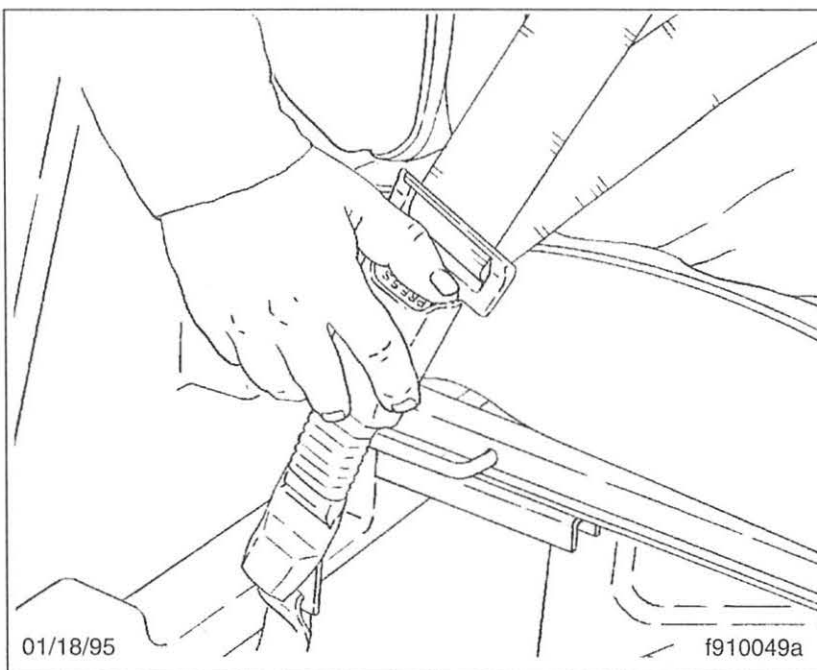

Fig. 5.9, Releasing the Three-Point Seat Belt
4. To unbuckle the three-point seat belt, push the button on the buckle as shown in **Fig. 5.9**. If the Komfort Latch was used, release it by giving the shoulder belt a quick tug. If you lean forward against